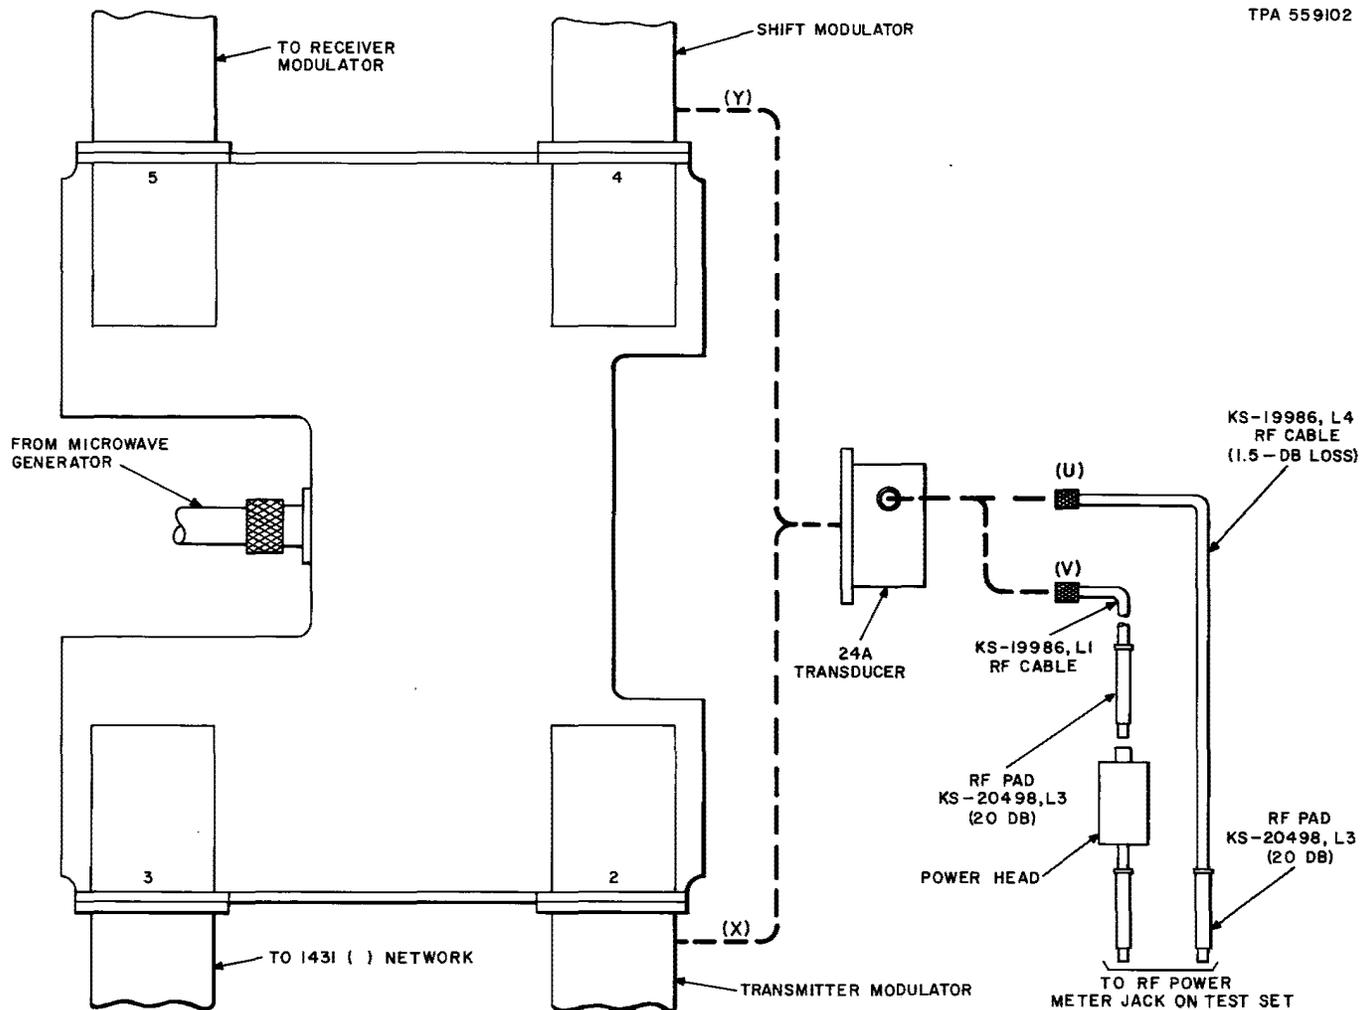

Fig. 2—27A Network—Test Arrangement
2	Connect test apparatus to the exposed port on the 27A integrated circuit in accordance with Fig. 2, option (X).
10	Connect test apparatus to the exposed part on the 27A integrated circuit in accordance with Fig. 2, option (Y).